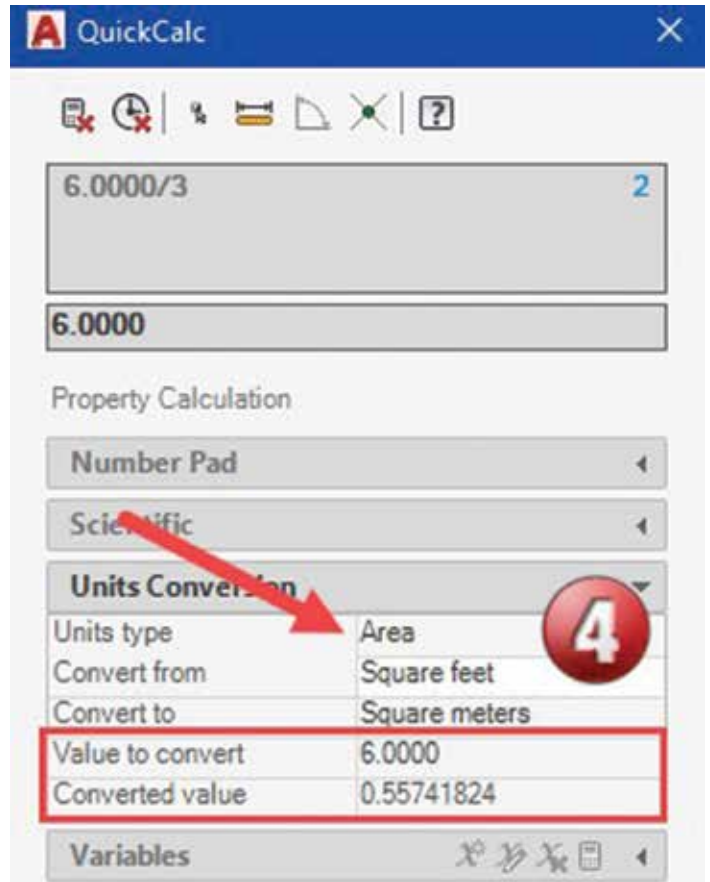

Figure 10
- Under the Units Conversion section, change the Units type to Area. Change the "Convert from" and "Convert to" sections to your desired outcome and the converted value will be shown for you to use in your calculations (Figure 10).